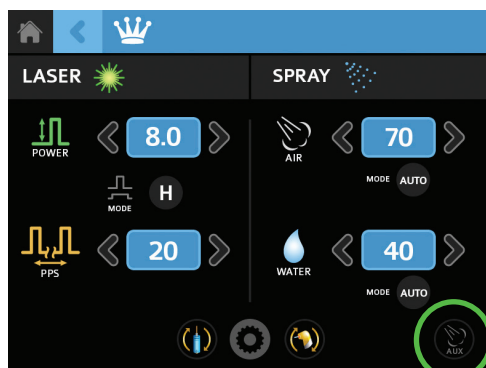

Figure 7D
D. The Auxiliary Air icon on the bottom right of the screen turns the Fractional function on and off. When it is off, the icon will appear dark. (Figure 7D)